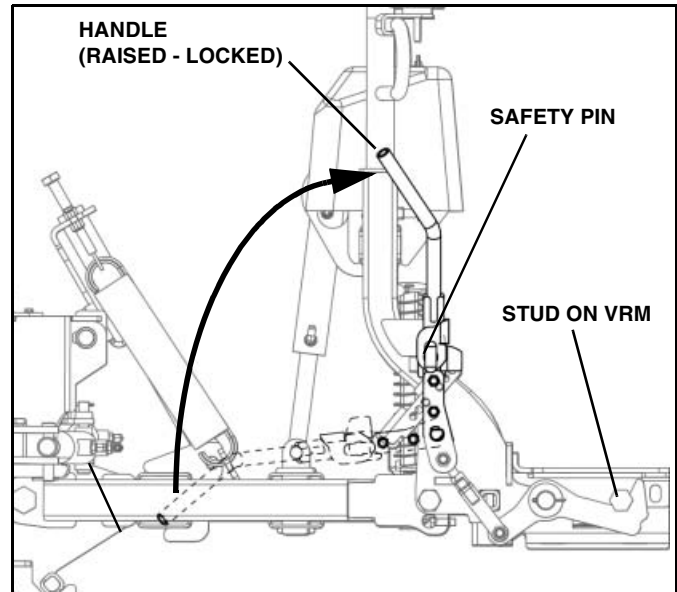

Figure 1-33
3. Pull up engagement handle to engage plow onto stud on VRM, ensuring that the safety pin is fully engaged. (See Figure 1-33).